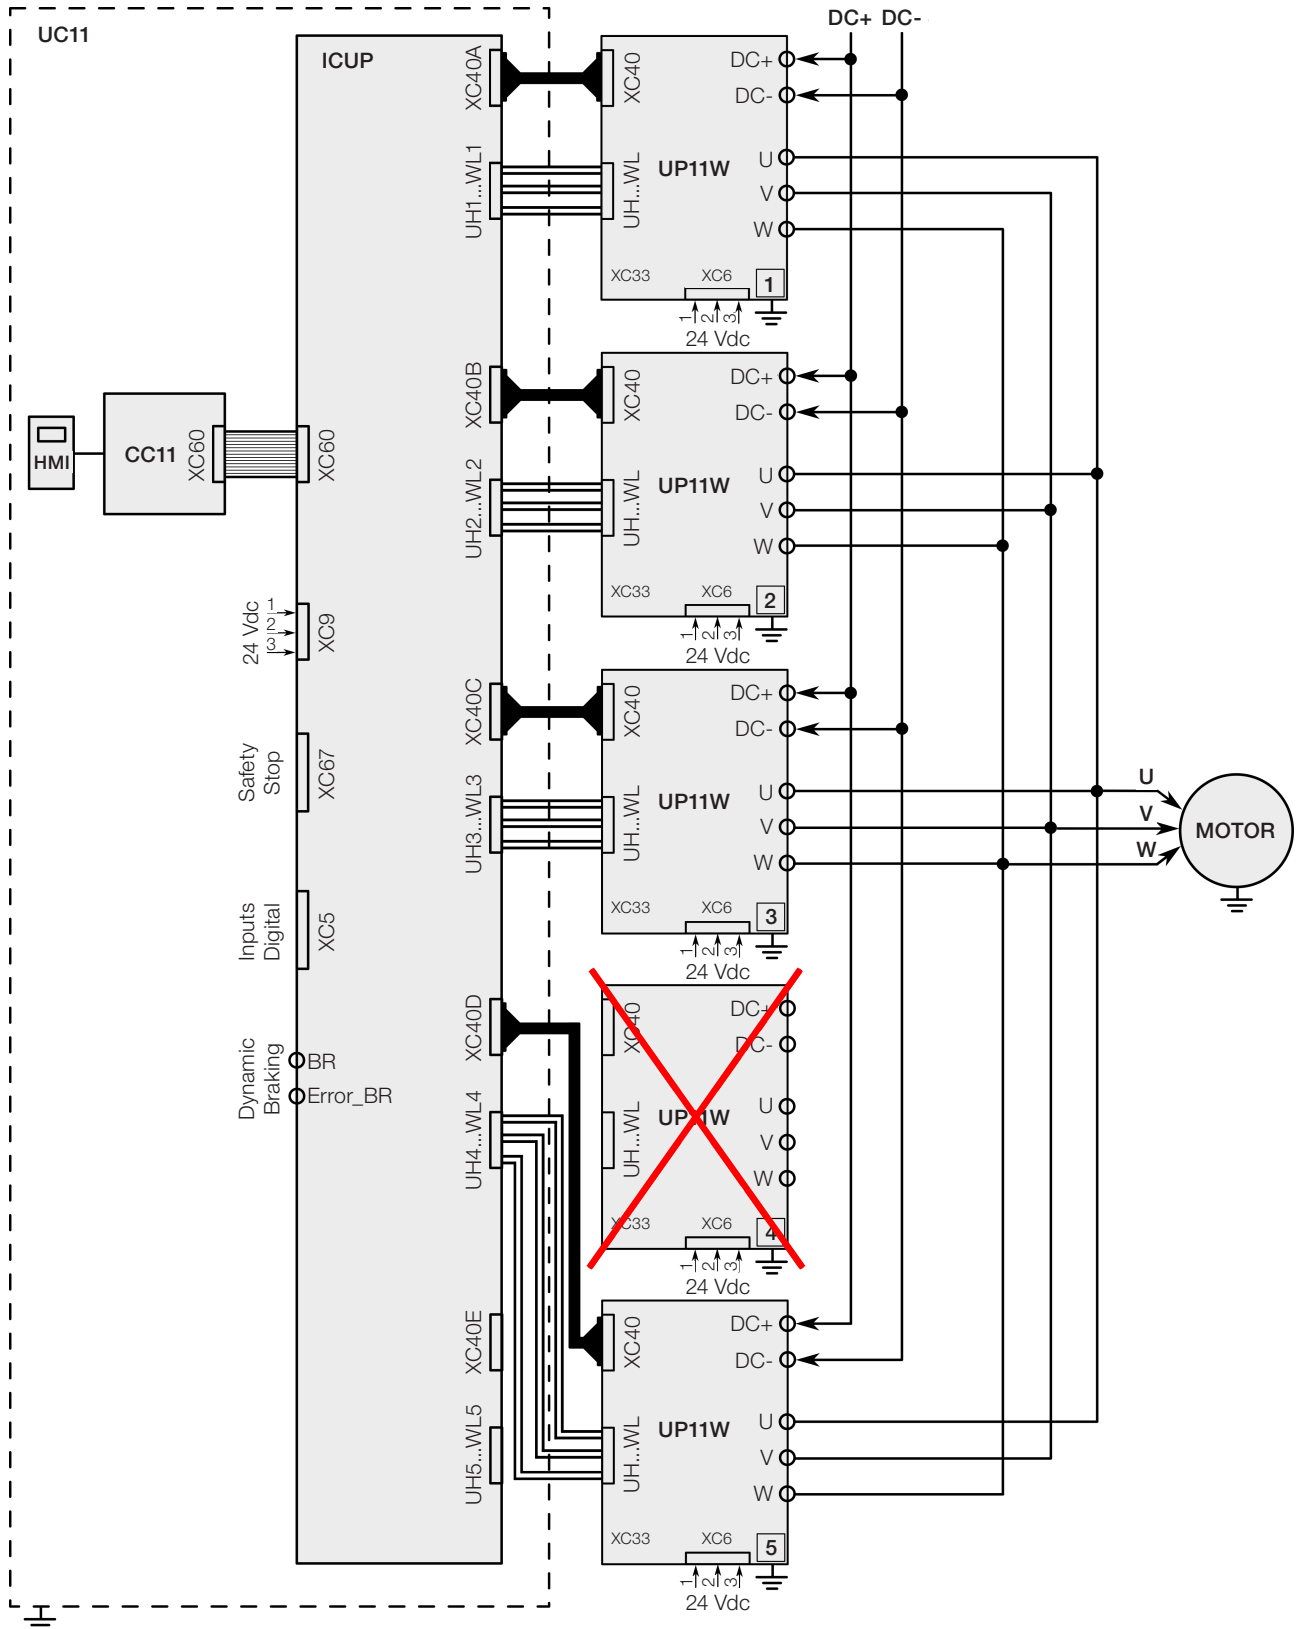

Figure 5.7: Moving the control connections on the ICUP board
3. Disconnect the power and control of the UP11W G2 number 4, according to Figure 5.7 on page 5-13.
4. Move the control connections on the ICUP board, as shown in Figure 5.7 on page 5-13. Connect the control cables of UP11W number 5 to position 4 of the ICUP board. Thus, UP11W G2 5 becomes UP11W G2 4.